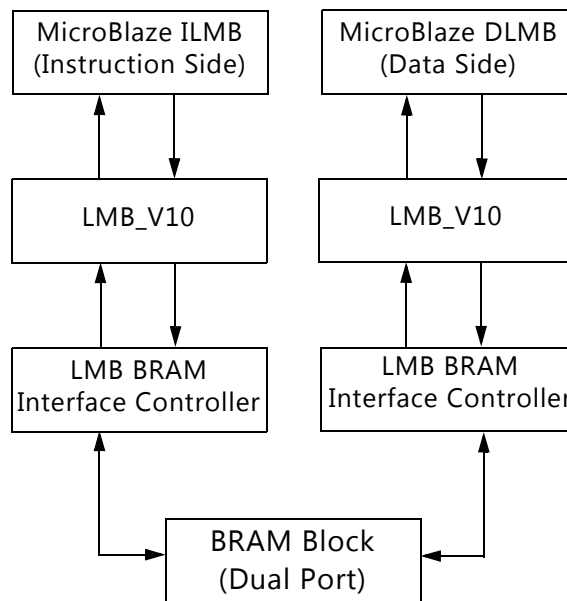

Figure 1-1: MicroBlaze Processor System Using Two LMB IP Cores
A MicroBlaze™ processor system using two LMB IP cores is shown in Figure 1-1. This system shows the use of both Instruction (I) and Data (D) side LMB buses connecting to a dual-port BRAM block through separate LMB BRAM interface controllers. For information on the LMB BRAM Interface Controller see the *LMB BRAM Interface Controller LogiCORE IP Product Guide* (PG112) [Ref 1].